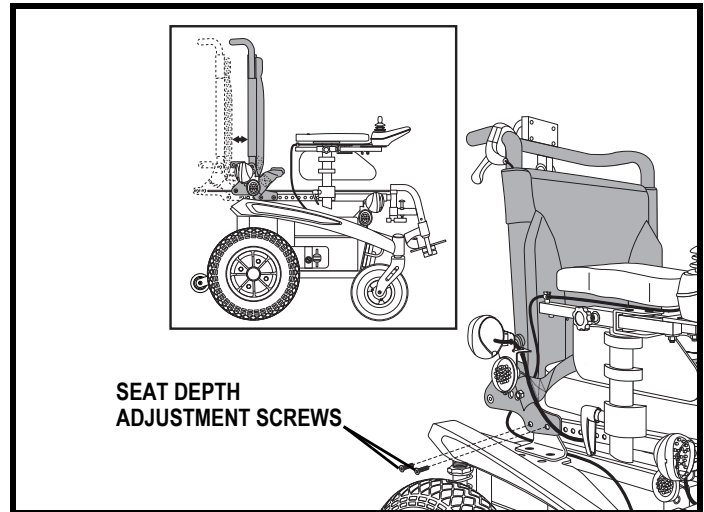

Figure 13. Seat Depth Adjustment
2. Remove both seat depth adjustment screws from each side of the seat. See **figure 13**.